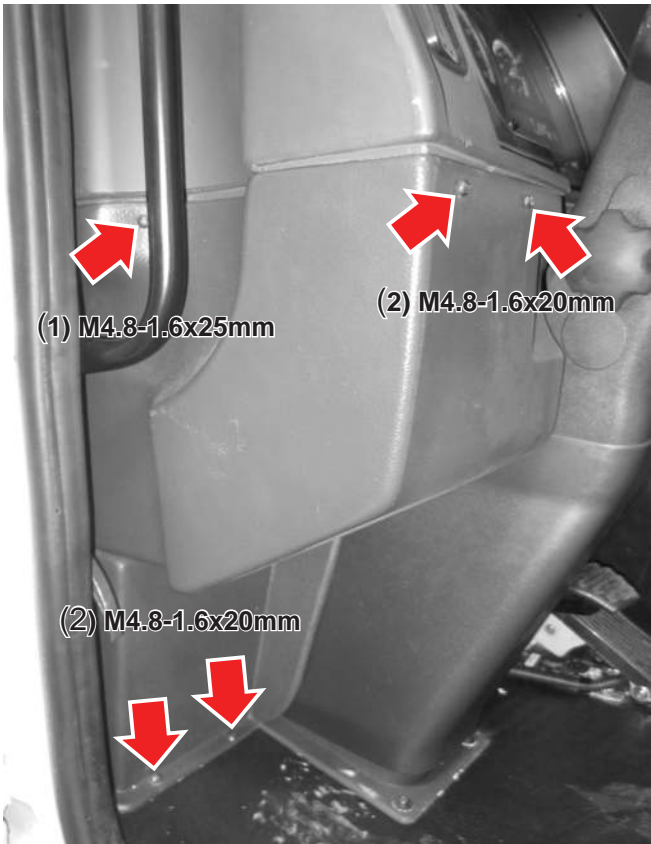

Figure 2-1
1. Remove the five sheet metal screws and set aside for reinstallation (see Figure 2-1).
2. Remove the trim panel and set aside for reinstallation (see Figure 2-1).